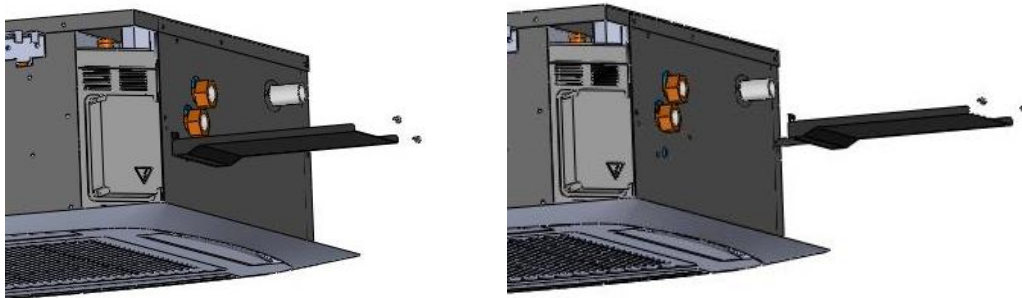

Figure 7
1. Align the two screw holes in the fixing plate to the two holes in the external drain pan. (Figure 7)